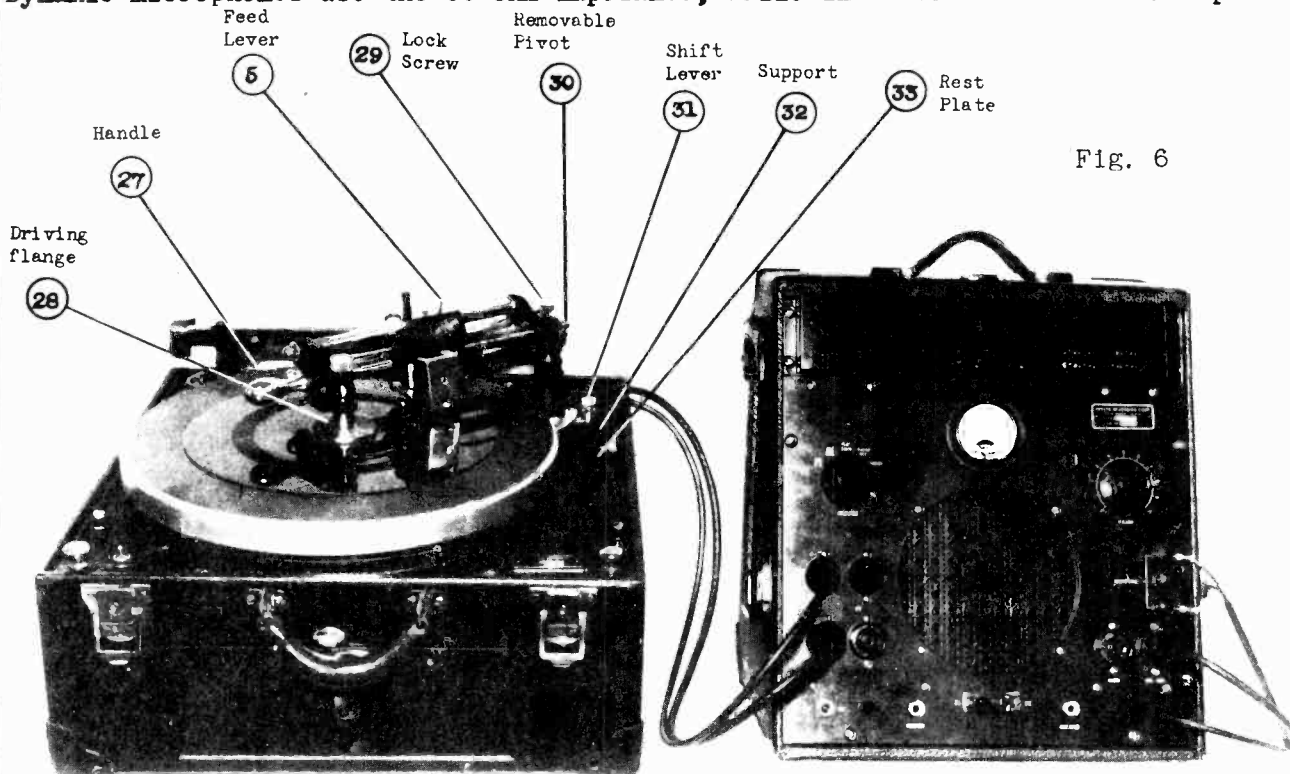

Fig. 6
To start motor place shift lever (31) in neutral position and turn on motor switch. See Fig. 6. Then shift to whatever speed is desired (78 or 33 1/3 rpm). After shifting to speed desired, be sure to lock the shift lever (31) by means of the shift lock screw (50). When shifting from one speed to the other it is not necessary to stop the motor. Simply loosen the lock screw (50) and shift to the other speed.